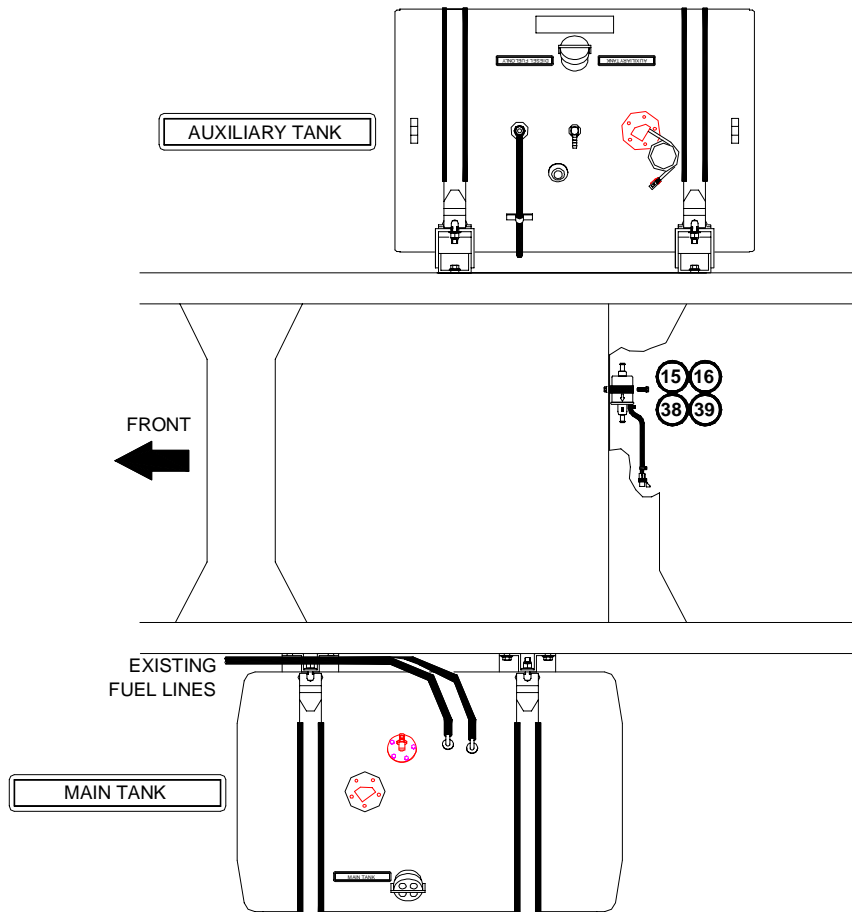

Figure 2
- Install “AUXILIARY TANK” label (Item #35) to the left of the fill spout. (See Fig. 2 page 14).
- On a cross-member between the two tanks, mount the transfer pump (Item #15) using any cross-member hole, fuel pump clamp (item #16) and hardware (Items #38 & 39). The pump should be mounted as close to the auxiliary tank as possible. Make sure the outlet of the pump is facing towards the main tank as shown in figure 2 below.